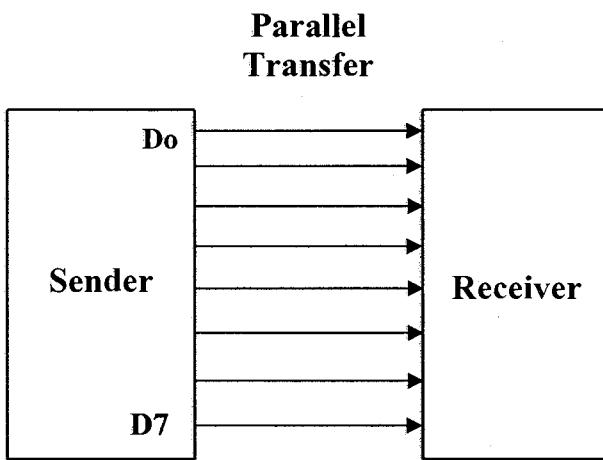

Fig 2 Parallel communication
- ❖ In fig 2 the ASCII character "A" (8-bit binary $01000001 = 41h$) is framed between the **start bit** & a single **stop bit**. The **LSB** is sent out first.
- ❖ When there is **No data transfer**, the signal is high (1), which is referred to as **MARK**.
- ❖ The **low** (0) is referred to as **SPACE**.